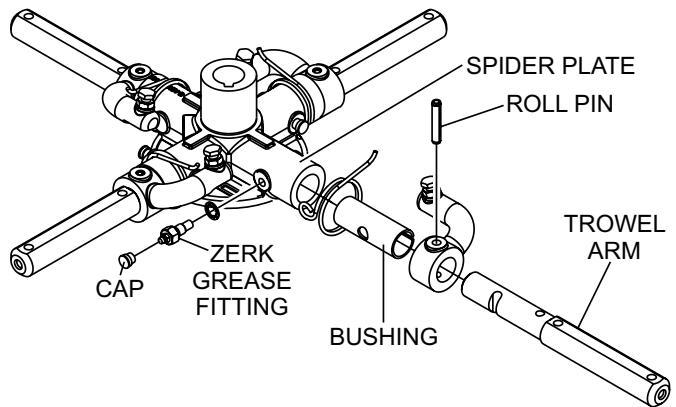

Figure 26. Trowel Arm Removal
1. Each trowel arm is held in place at the spider plate by a hex head bolt (Zerk grease fitting) and a roll pin. Remove both the hex head bolt and the roll pin from the spider plate (Figure 26).